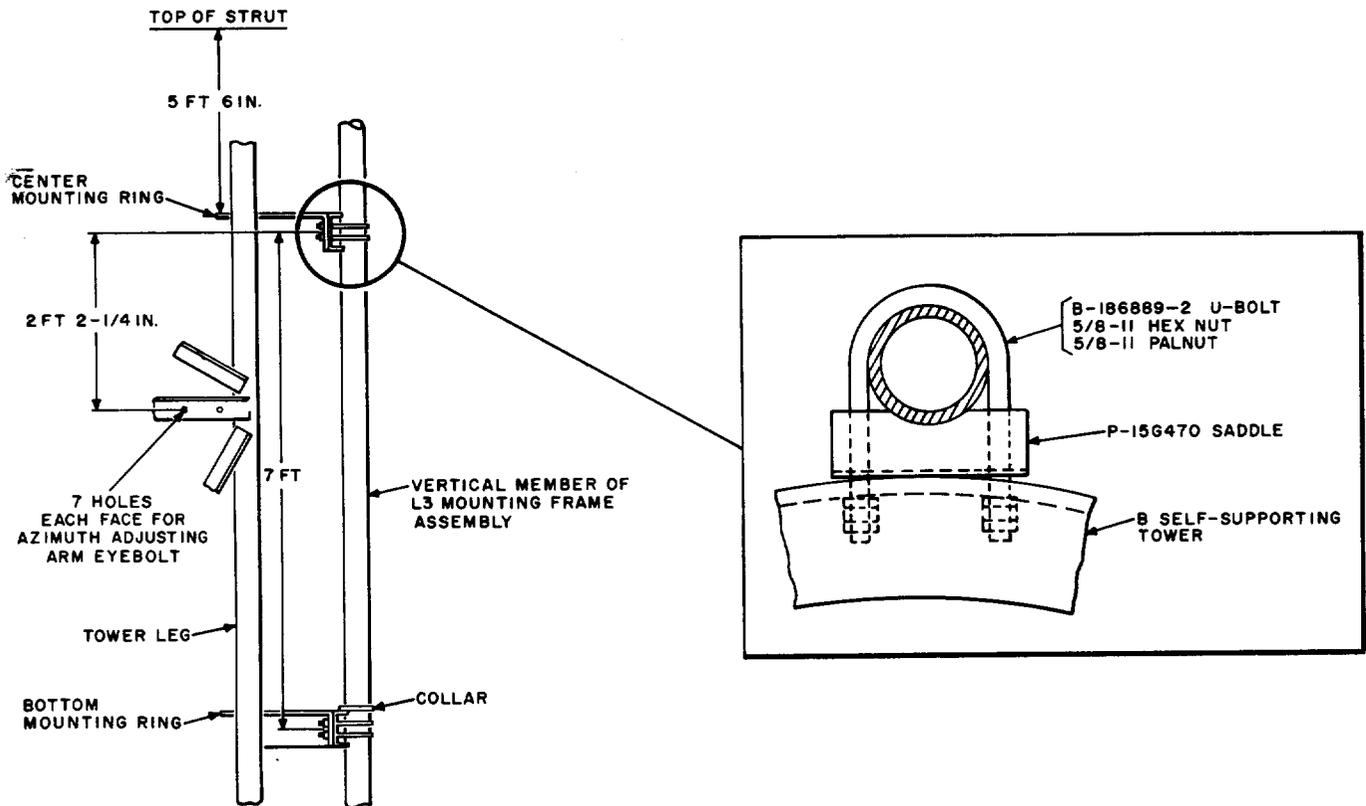

Fig. 16—Antenna Installation on AT-7729 B Self-Supporting Tower
5.17 All installation procedures are shown on Fig. 16. Hoist the antenna to the installation level and guide it into position against the center and bottom mounting rings of the tower.